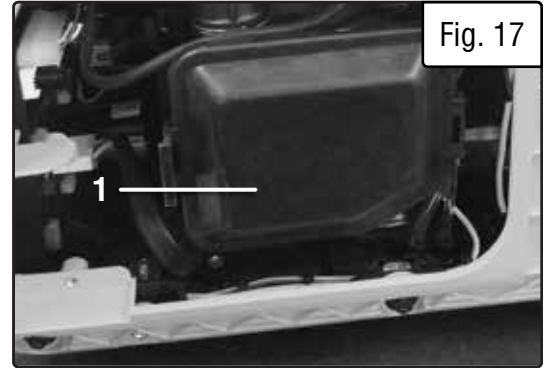

Fig. 17
2. Take the cover off of the air filter (Fig. 17 - 1) using the two tabs on both sides. Remove the air filter element. Wipe excessive oil and any dirt from inside of the air filter casing.